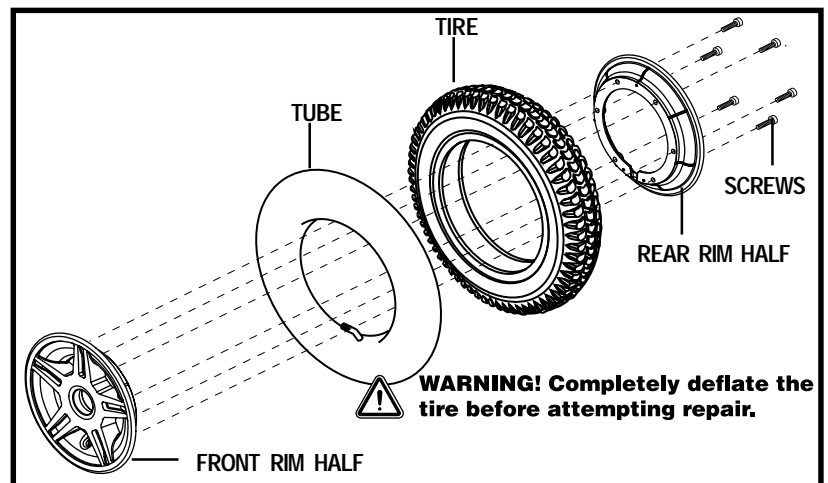

Figure 27. Jazzy 600 XL Drive Wheel Disassembled
6. Remove the screws that fasten the two rim halves together. See figure 27.